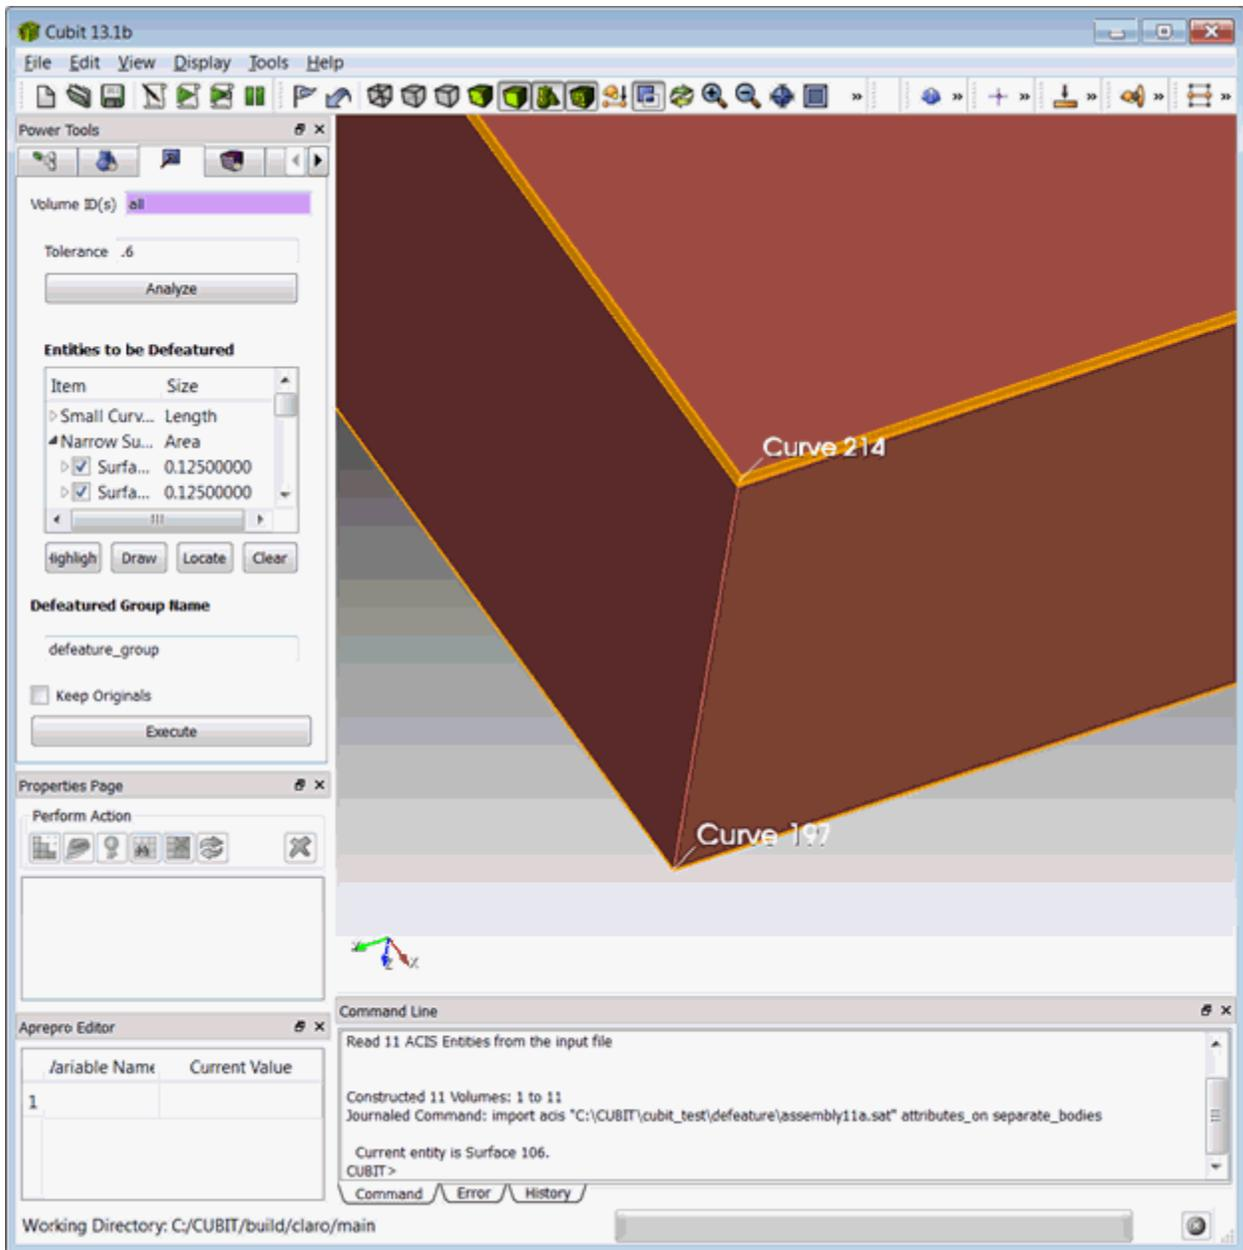

Figure 3: Zoom view of a small curve and surface
Step 1 requires specifying volume ids (e.g. all) and a tolerance (e.g. 0.6) as shown in Figure 1. Clicking “Analyze” button will automatically find small curves and surfaces in the volumes specified. Figure 2 shows the highlighted small curves and surfaces with the label information. Figure 3 shows a zoom view of a small surface.